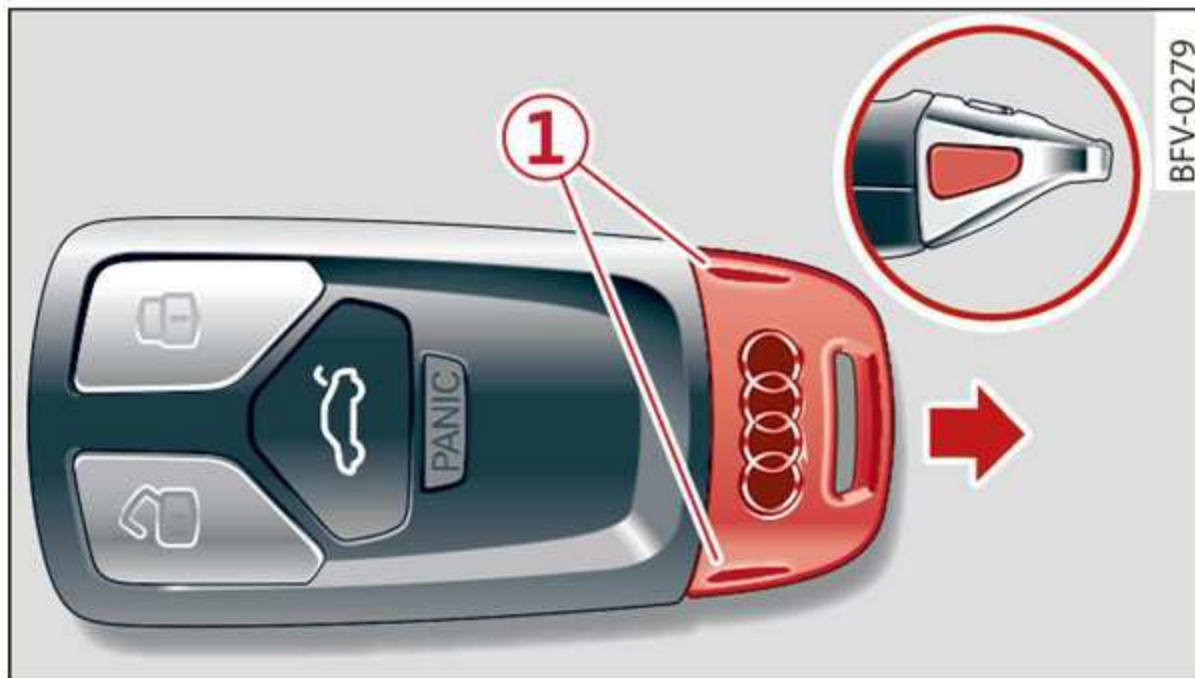

Fig. 12 Remote control master key: removing the mechanical key
- ▶ Press the release buttons ① ⇒ fig. 12 and remove the mechanical key from the remote control key.